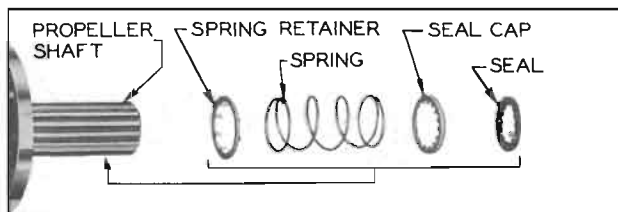

Figure 5-3—Propeller Shaft Spline Oil Seal
On cars equipped with the 3.6 or 3.9 rear axle gear ratio it is necessary to remove the rear axle assembly whenever the propeller shaft must be removed because pinion pullers available for service will not fit over the pinions of these gear sets. Furthermore, on cars with Dynaflo Drive the propeller shaft spline oil seal (fig. 5-3) cannot be properly installed with third member housing connected to the torque ball.
4. On Dynaflow Drive cars, place propeller shaft spline oil seal parts on front end of propeller shaft in the following order: spring retainer, spring, seal cap, oil seal. See figure 5-3. **NOTE:** Install these parts just before connecting torque tube to torque ball. Do not install parts before rolling axle assembly under car.